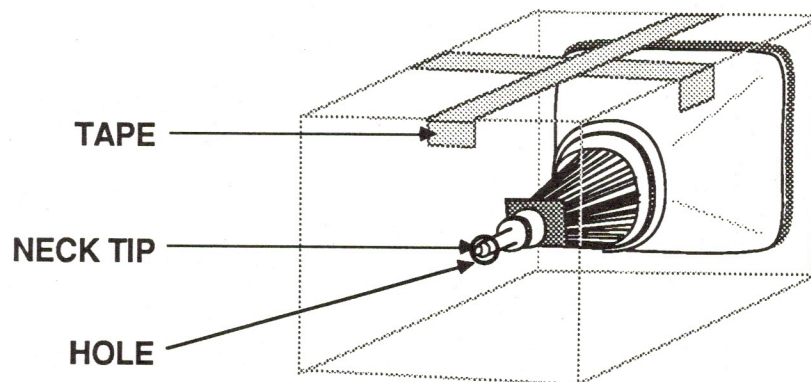

FIGURE 4
3. Place the CRT inside the box with the tip of the neck protruding through the hole, and tape down the box flaps with the duct tape (Figure 4).